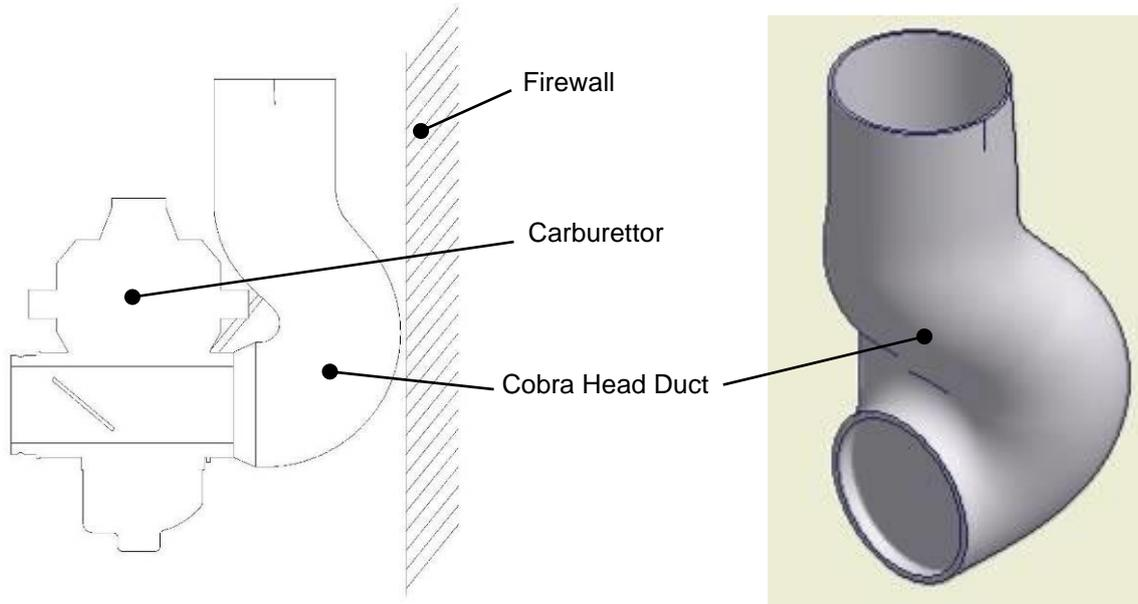

Figure 40. Cobra Head for Installations with Minimum Carburettor Clearance
- For installations where there is very little room between the carburettor and the firewall a special duct has been developed to minimise pressure drop and turbulence – shown in Figure 40.